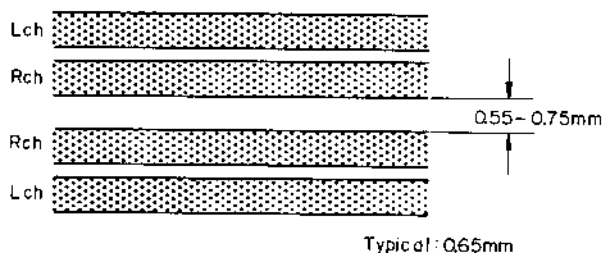

Fig. 4.18
(2) Record Head Height Adjustment and Azimuth Alignment
- (g) Immerse the recorded tape in a magnetized developing solution. In turn, check to insure that the recording head tracks across the center are separated with a distance of 0.55 to 0.75 mm (typically 0.65 mm) as illustrated in Fig. 4.18.